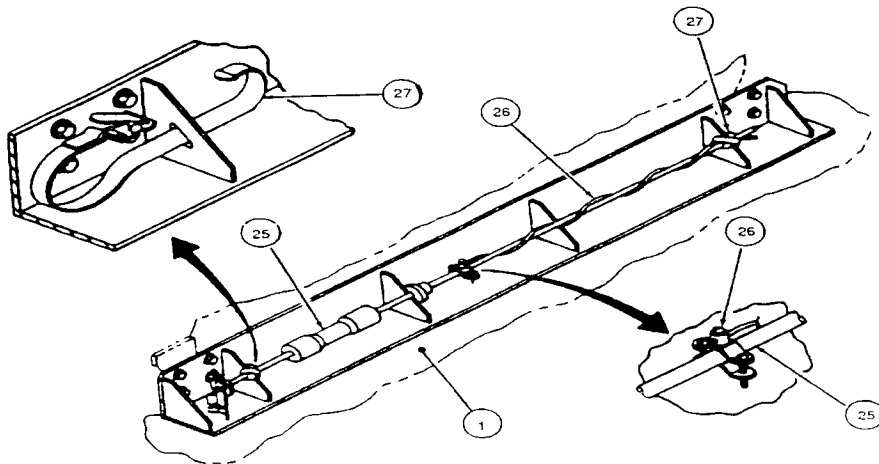

Figure 4-9 Ground Rod Stowage.
(a) Run straps assemblies (27, Figure 4-9) through slots in tank mounting angle.
(b) Attach ground cable assembly (26) to ground rod (25). Wrap cable around rod. See Figure 4-9.